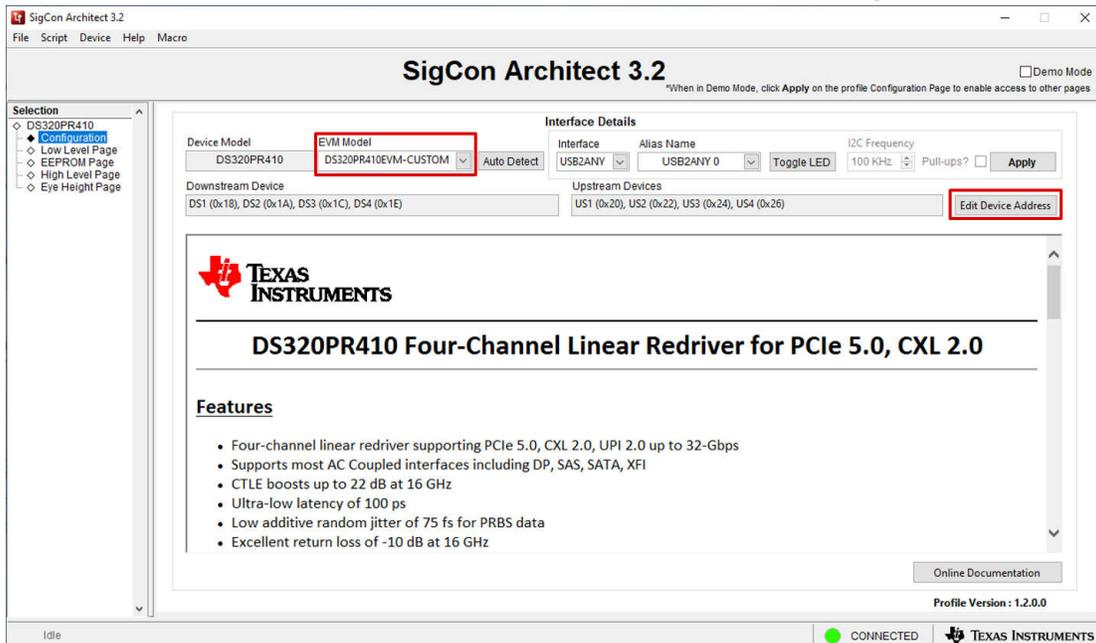

Figure 2-4. DS320PR410EVM-CUSTOM Configuration
- By default, the GUI is configured to communicate with the DS320PR410-RSC-EVM evaluation module, which contains 8 DS320PR410 devices (4 facing Downstream, 4 facing Upstream). However, the DS320PR410 GUI also allows for support of between 1 and 16 DS320PR410 devices using the *EVM Model* drop-down menu to select the *DS320PR410EVM-CUSTOM* model, shown in Figure 2-4.